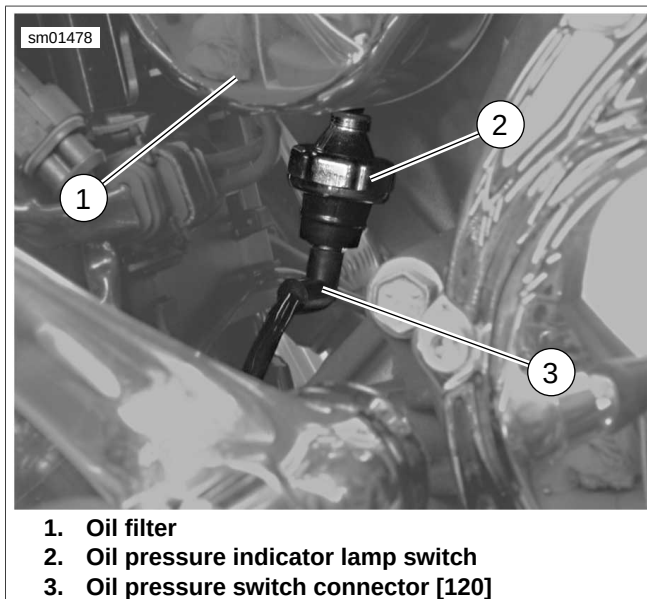

Figure 3-2. Oil Pressure Indicator Lamp Switch
2. See Figure 3-2. Unplug connector [120] (3) from oil pressure indicator lamp switch (2) located under oil filter (1) by pulling elbow connector straight down from stud on oil pressure switch.
2. See Figure 3-2. Coat threads of oil pressure switch (2) with LOCTITE 565 HIGH PERFORMANCE PIPE SEALANT with TEFLON. Reinstall oil pressure switch. Using OIL PRESSURE SENDING UNIT WRENCH, tighten switch snugly. DO NOT OVERTIGHTEN.
3. Plug in connector [120] (3) by pushing elbow connector straight up onto stud on oil pressure switch.